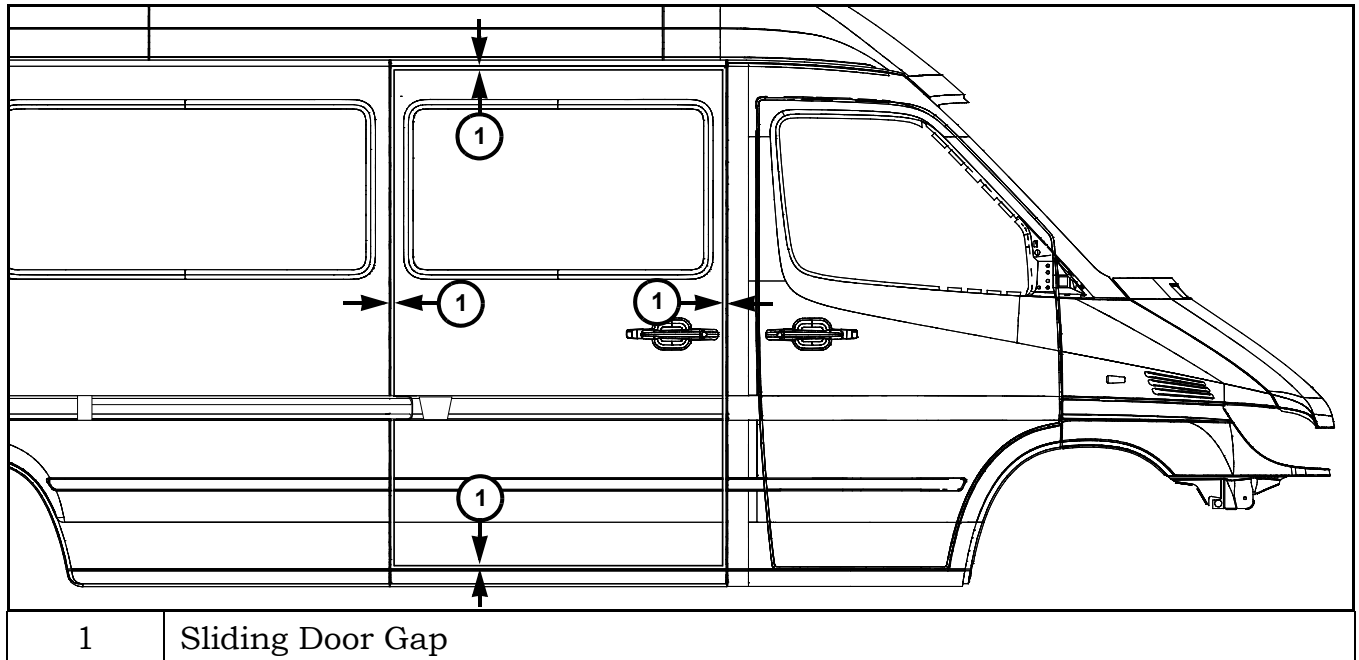

Figure 2 Sliding Door Gap
1. Check the sliding door gap all the way around (Figure 2). The gap nominal value is $7\text{ mm} \pm 0.5$ ($0.276\text{ in} \pm 0.019$).